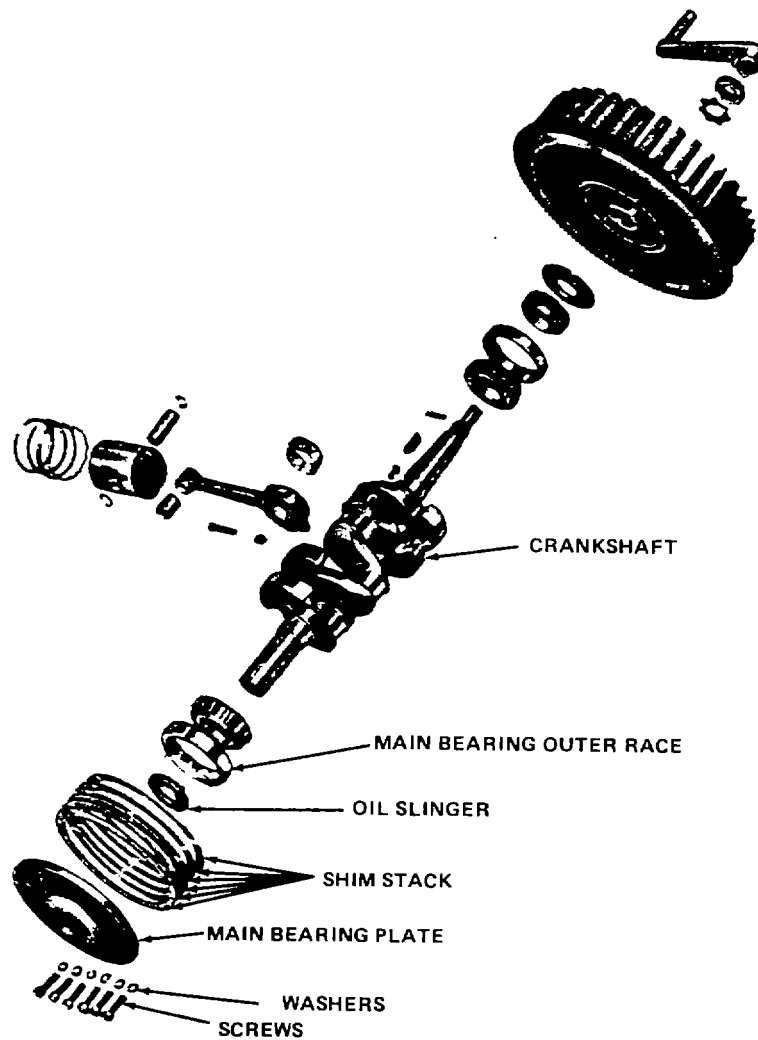

Figure 6-21. Crankshaft
p. Crankshaft. (Figure 6-21)
- (1) Remove six 3/8-16" x 1-1/4" screws and six 3/8" lock washers.
- (2) Remove main bearing plate, shim stack and main bearing outer race.
- (3) Remove crankshaft.
- (10) Loosely assemble valves, valve springs and valve spring retainers into correct location in cylinder block.
- (11) Install valve spring compressor (Fig. 6-21) and compress valve spring.
- (12) Install valve keepers onto valve stem.
- (13) Release and remove valve spring compressor (Fig. 6-21)